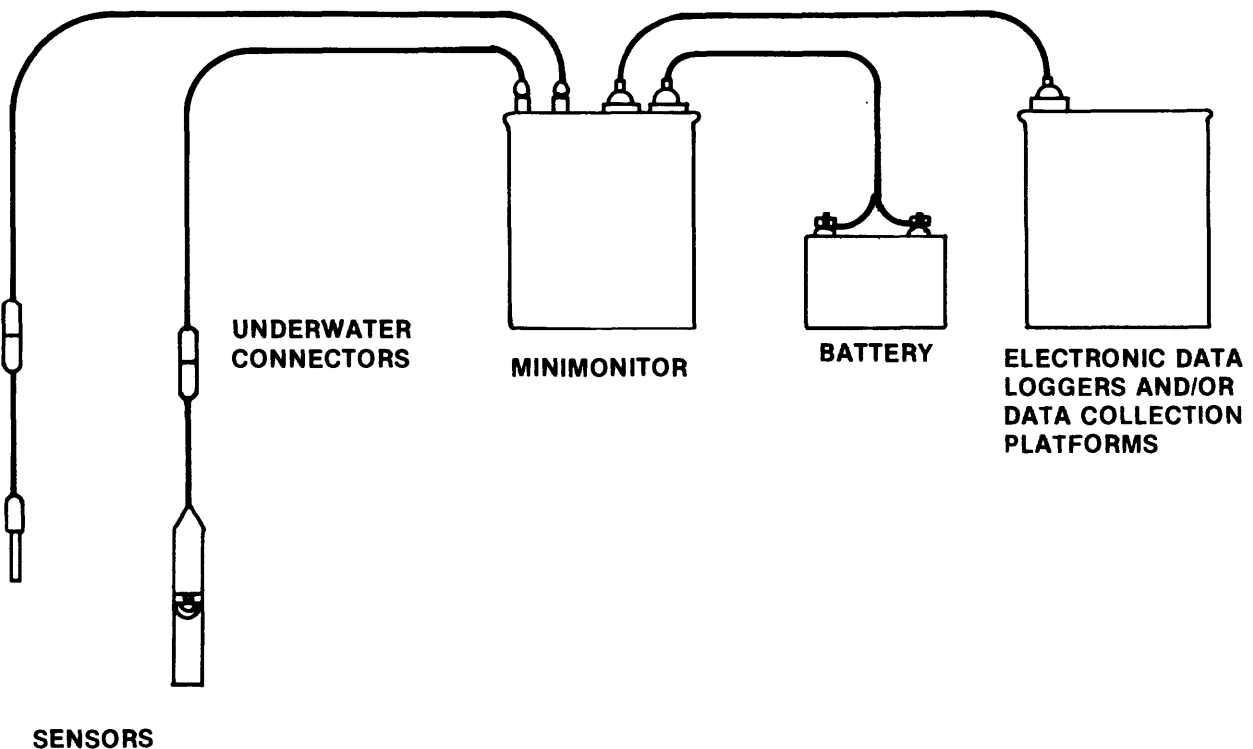

Figure 1.--Minimonitor connection.
The Minimonitor is a system designed to measure as many as four values of water-quality constituents or properties. An expanded version can measure as many as eight constituents or properties. A watertight can containing signal conditioners is connected with cable and waterproof connectors to various water-quality sensors. The system is composed of a battery-powered electronics package, sensors with or without extension cables having underwater connectors, and, in some instances, a Geostationary Operational Environmental Satellite (GOES) data-collection platform or other equipment. Figure 1 shows a Minimonitor connection. An external battery is required and, when in operation, the unit is activated by an external device such as an electronic recorder. Once activated, the Minimonitor measures and provides analog voltages, which are proportional to the constituents or properties being measured. (The Minimonitor is turned OFF by the external device.) Unlike the Survey Flow-Through Monitor, the sensors can be placed directly into the river, provided they are protected. This feature eliminates the need for a pump and a sample chamber. The Minimonitor system functions also with the sensors positioned in a sample chamber that has water pumped into it. The Minimonitor is available to measure temperature, specific conductance (conductivity), dissolved oxygen (DO), and pH, along with other acceptable voltage inputs from instruments like the Ultrasonic Ranger. The Minimonitor is available on a rental basis from the HIF.